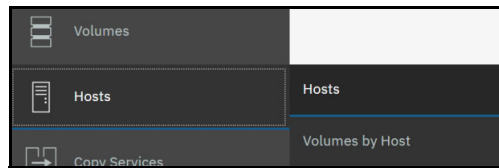

Figure 9-53 Hosts menu in the navigation
2. Select **Hosts** from the menu, as shown in Figure 9-53.
2. Click **Hosts**, as shown in Figure 9-53.